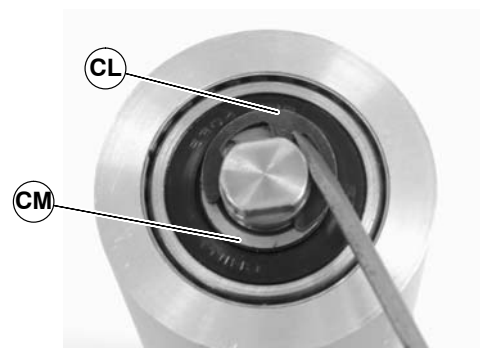

Figure 75
5. Remove the pulley shaft assembly: remove the clip ring (CL of Figure 75) and washer (CM) from one side of the pulley assembly.